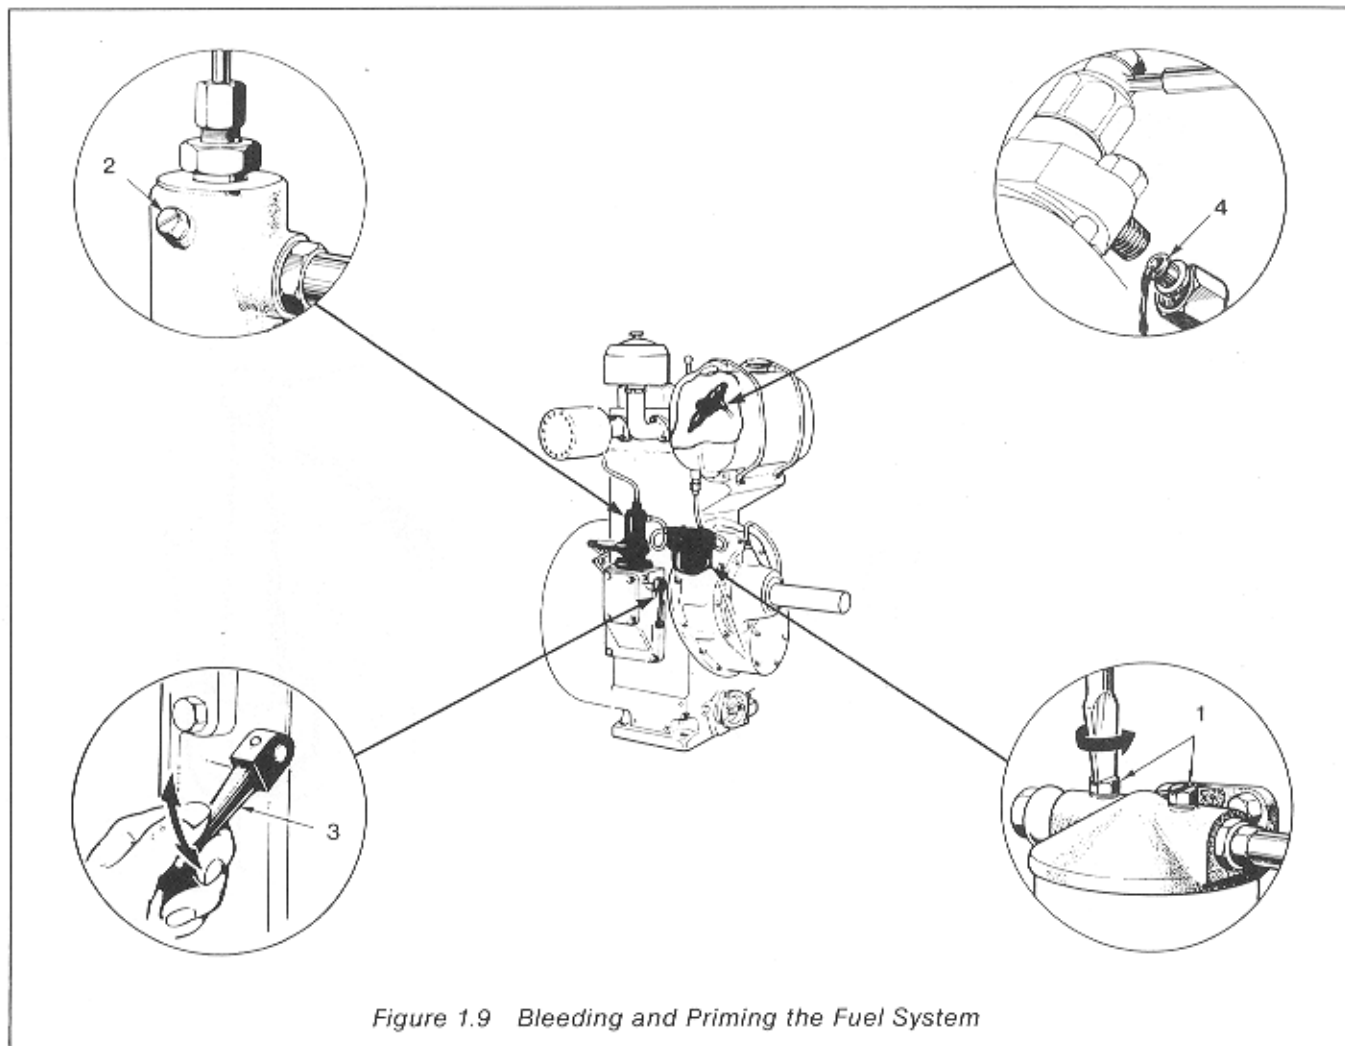

Figure 1.9 Bleeding and Priming the Fuel System
1.42 To bleed and prime the fuel system, each cylinder (in the case of multi-cylinder engines) must be done in turn. The flywheel TDC mark must be set for the appropriate cylinder about half a revolution away from the pointer before top dead centre. If a fuel lift pump is fitted fuel will not flow unless the lift pump priming lever is operated. With reference to Figure 1.9 carry out the following procedure: